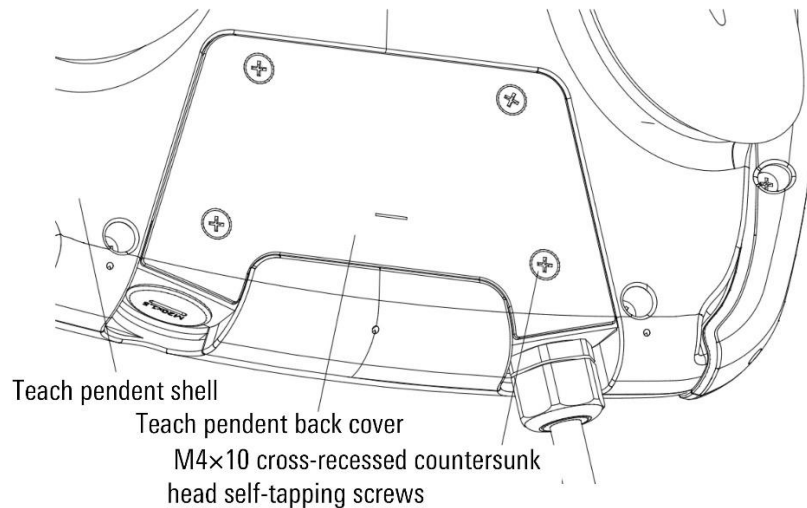

Figure 10-6 Diagram of replacing the external wiring harness of the teach pendant 1
- Step1. Use a phillips screwdriver to unscrew the four M4×10 cross-recessed countersunk head self-tapping screws on the back cover of the teach pendant, and remove the back cover. Refer to Figure 10-6.